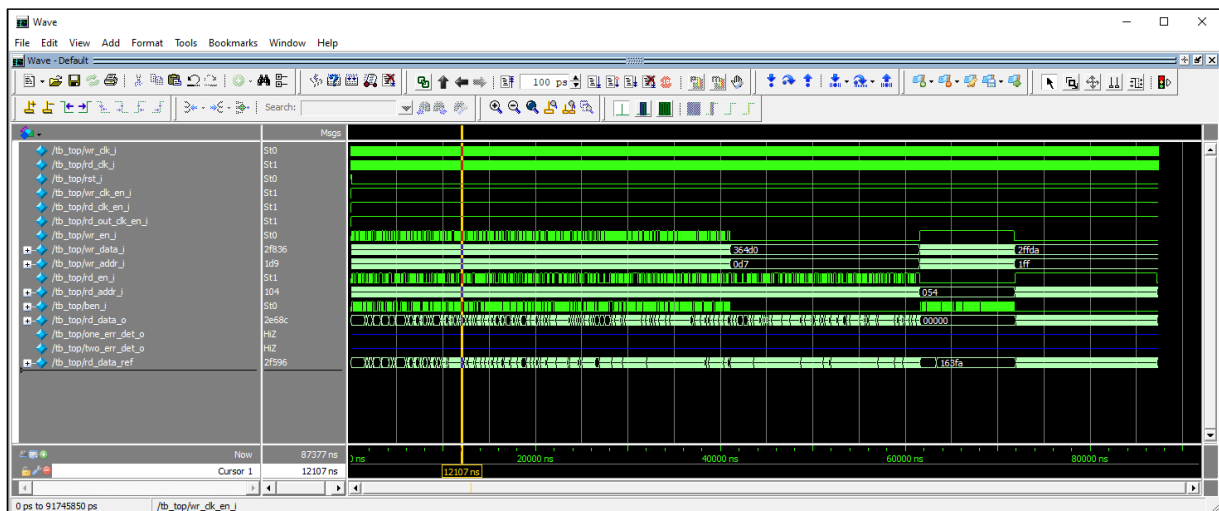

Figure 3.8. Simulation Waveform
- Click **Next**. The **Summary** window is shown. Click **Finish** to run the simulation. The complete waveform results of the simulation in this example are shown in Figure 3.8.